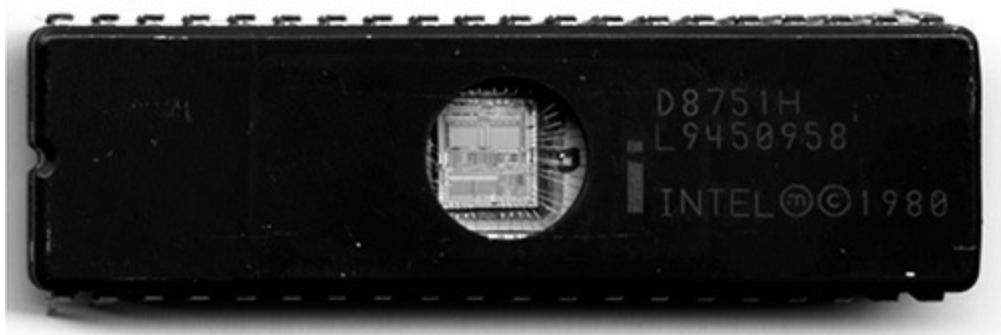

Figure 2-1 Intel 8751 MCU.
In the 1980s, MCUs started to appear with EPROMs, which stored programs that could be changed once the MCU was exposed to ultraviolet (UV) light. Figure 2-1 shows Intel 8751, which is UV reprogrammable version of the immensely popular 8051 MCU.